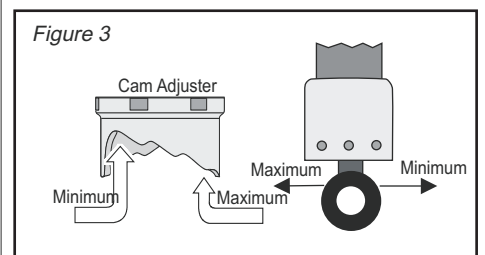
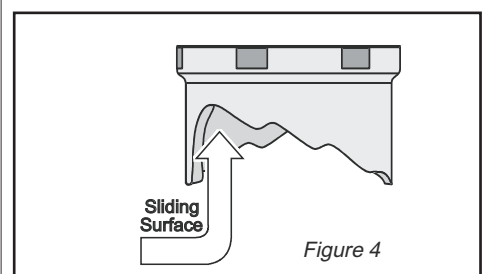

Figure 3
Figure 4
- Install top cap (with decal) and using a spring compressor tool, compress the spring(s) enough to install the retaining clip (F), release the spring slowly, making sure the spring retainer clip seats fully in the top cap and the shock spring.
- Make sure both cam adjusters are adjusted to the minimum setting (see figure 3).
- If excess bottoming occurs, adjust preload cam to a higher setting on both shocks. (See Figure 3) If bottoming persists after adjusting to the highest setting, a spring with a higher rate may be required. For easier spring preload adjustments, put a small amount of cam adjuster lube (supplied) on the sliding surface prior to rotating the cam (see figure 4). If excess topping occurs with the cam at the minimum setting, a spring with a lighter rate may be required. Note: The 12 Series Shock has a hydraulic anti-topping design which slows the rebound damping dramatically towards the end of the shock travel. This damping feature helps keep the motorcycle stable as the shock returns from compression.
8. Install one (1) washer to each side of the top eye. (Fig. 3)
9. Before installing shock assemblies onto motorcycle the following cam adjuster settings are recommended. (Fig. 4)